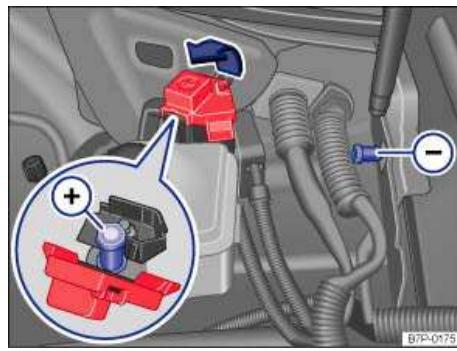

Fig. 114 Connection points in the engine compartment for the collapsible spare tire compressor.
- Connect the compressor with the 12 Volt clips **only** to the jump-start terminals in the engine compartment ⇒ *Jump-starting*. The red clip on the compressor cable is connected to the positive terminal (+); the black clip is connected to the negative terminal (-) ⇒ fig. 114.